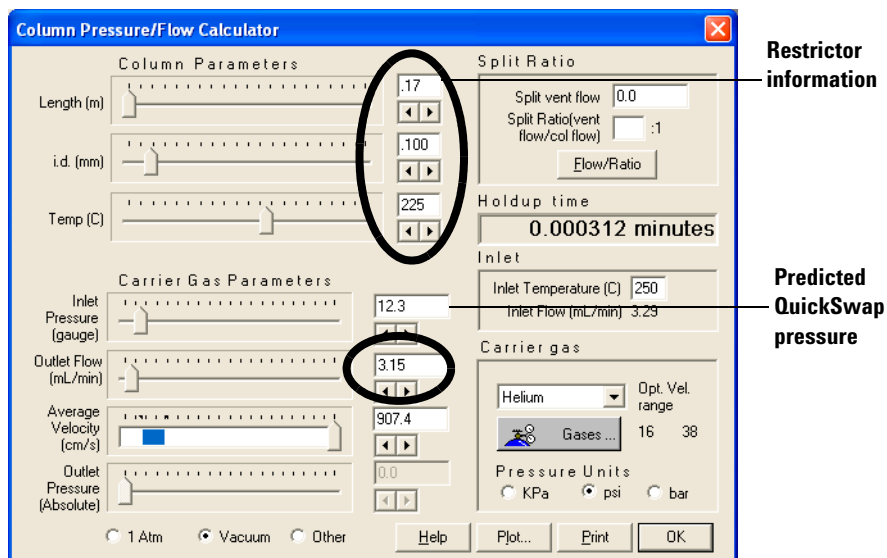

Figure 16 Predicting the new QuickSwap pressure as a result of column flow during the pressure pulse
- b Determine the pressure required to drive that same flow rate through the installed QuickSwap restrictor at its present setpoint temperature. In this example, assume a 100-μm restrictor. (Figure 16)